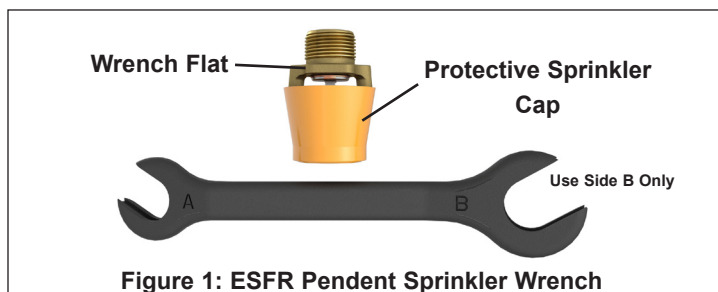

Figure 1: ESRF Pendent Sprinkler Wrench
- D. **Use ONLY sprinkler wrench 13635W/B (shown in Figure 1) for installing VK514. With the sprinkler contained in the protective cap, install the sprinkler onto the piping by applying the sprinkler wrench to the sprinkler wrench flats only, while taking care not to damage the sprinkler operating parts.**
Sprinkler Wrenches (see Figure 1):